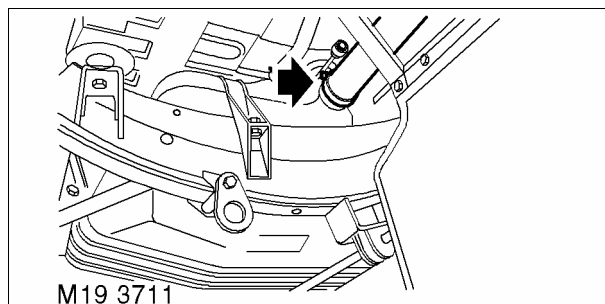

Fig. 3
- 7 Disconnect fuel tank filler hose from fuel tank filler neck. See Fig. 3.